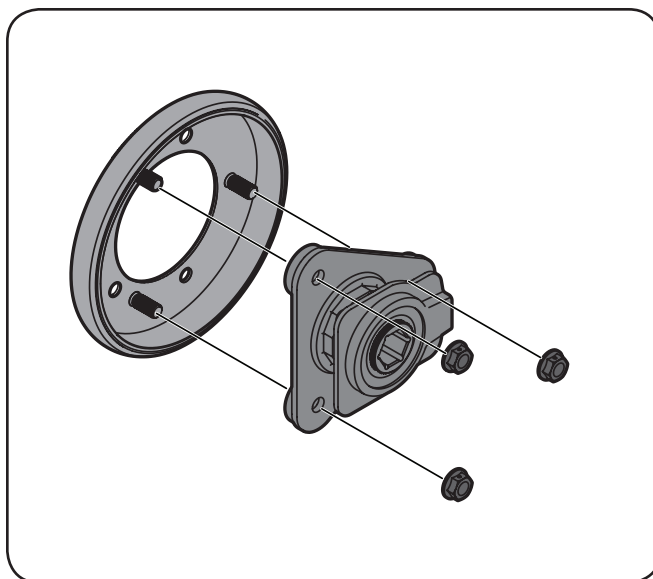

Figure 7-12
- Remove three hex nuts securing the friction wheel to the hub assembly. See Figure 7-12. Discard old friction wheel.